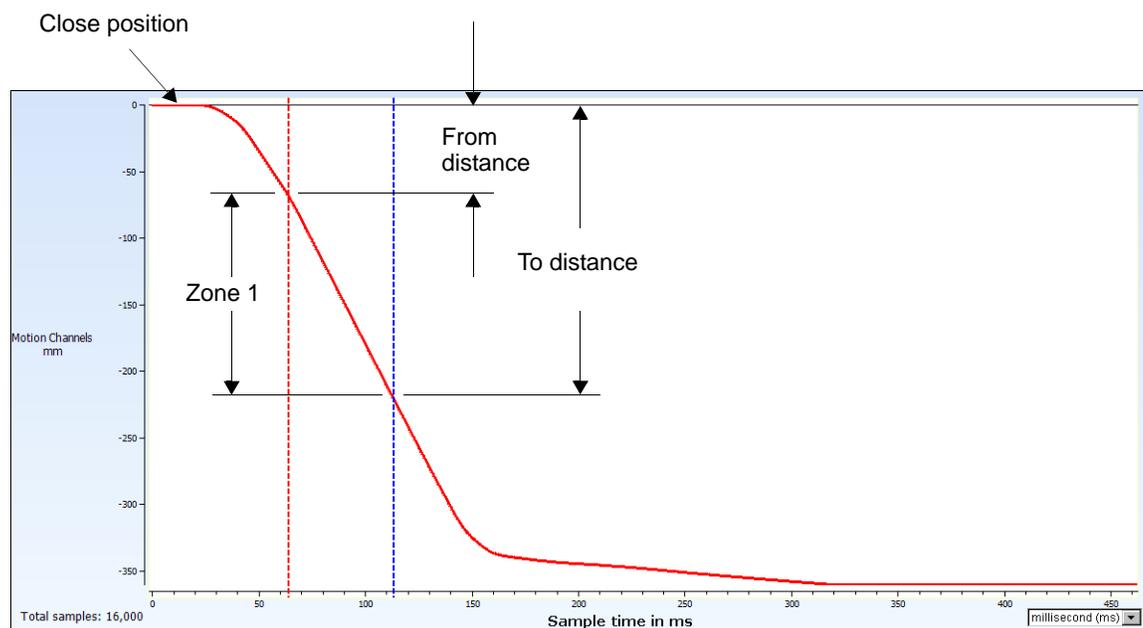

Figure 64 Average Velocity Distance to Distance
- Distance to Distance—The circuit breaker average velocity is calculated between the two distances specified. Distances are relative to the starting closed position (0.000 in/mm). The end distance (*TO*) must be greater in magnitude than the start distance (*FROM*). (See Figure 64.)